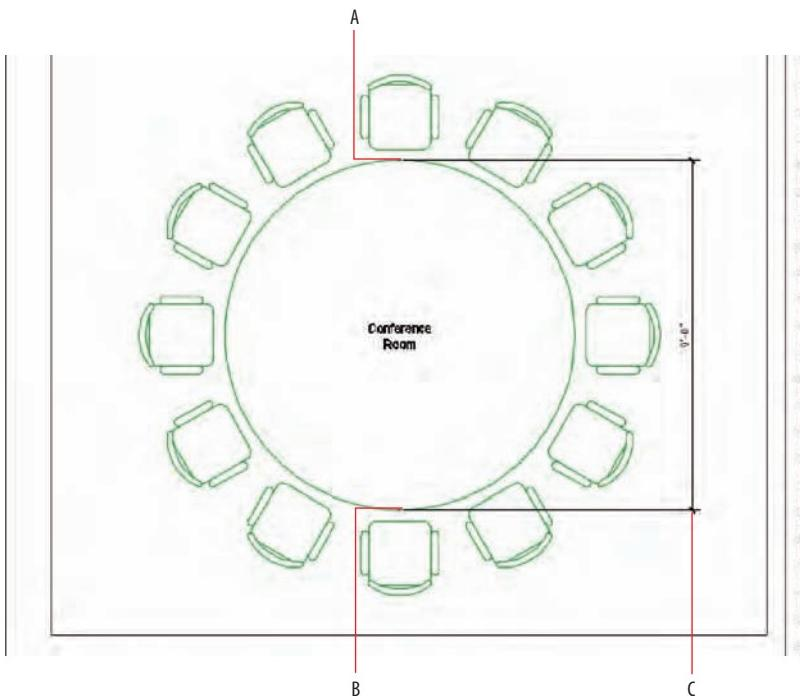

FIGURE 13.23 Drawing a dimension in paper space
5. Right-click the Object Snap icon in the status bar and toggle on quadrant snap. Click the Linear tool in the Annotation panel and click points A, B, and C shown in Figure 13.23. Points A and B are on the quadrants of the circle. A dimension measuring 9'-0" (274 in metric) appears on the layout in paper space that looks similar to the dimension you drew earlier in this chapter in model space.